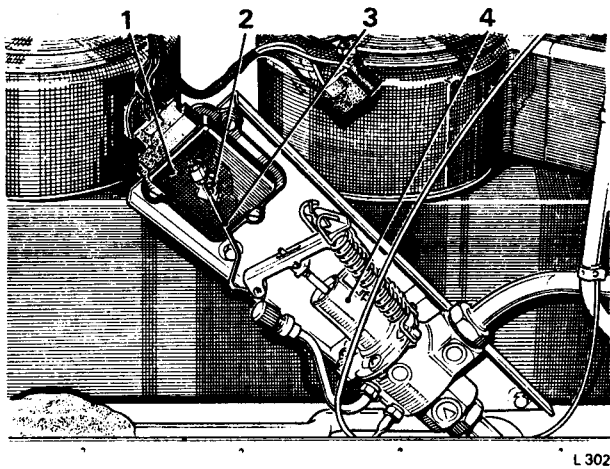

FIG. C39 SUCTION THROTTLING VALVE ACTUATOR SETTING
Suction throttling valve actuator linkage—To adjust (see Fig. C39)
2. With the throttling valve fully open, adjust the 5 B.A. lock-nuts on the link rod until the link rod and the crank lever lie parallel to each other as shown in Figure C39; tighten the 5 B.A. lock-nuts on the link rod.
7. With the actuator lever and the link rod parallel and the suction throttling valve fully open, tighten the actuator lever pinch bolt (see Fig. C39).